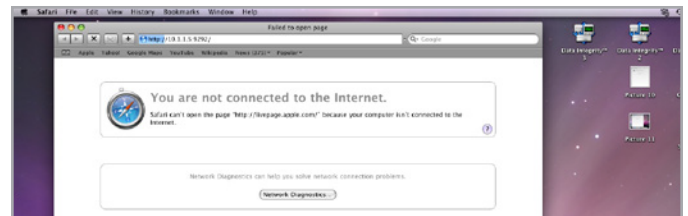

Fig. 68 - Mac Screen: Entering IP Address
3. In the address field, type in the following (Fig. 68):